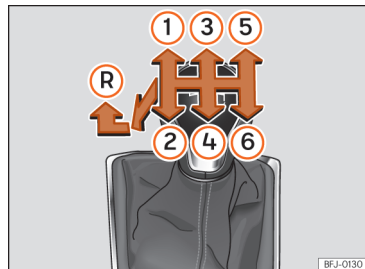

Fig. 117 Diagram of a 6-speed manual gearbox.
Gear positions are indicated on the gear lever **>>> Fig. 117**.
- With the gear lever in neutral, push it down, move it all the way to the left and then forwards to select reverse gear »» Fig. 117 (R).